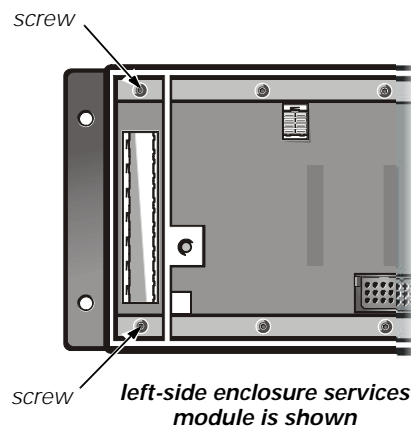

Figure 11. Screw Location in the Left Enclosure Services Module Bay
2. Using a ball-head Allen driver, remove the fifteen screws. Use an 11.5-inch-long, 5/64-inch ball-head Allen driver to remove the screws located inside the enclosure services module bays on the left and right side of the chassis (see Figure 11).